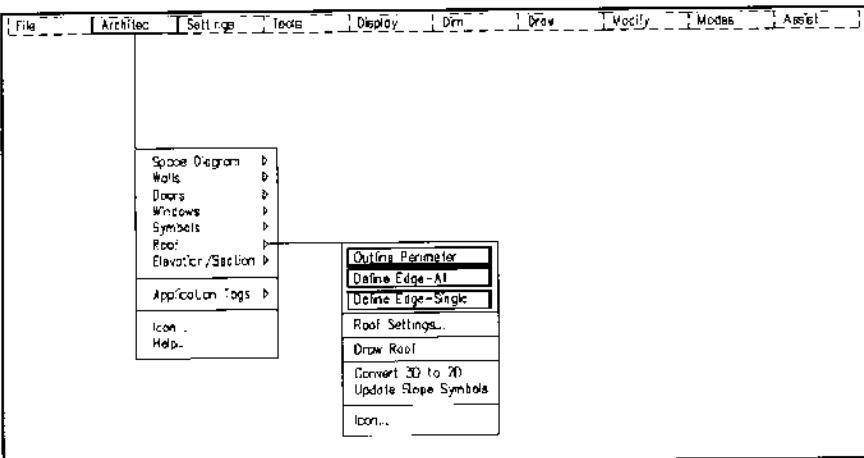
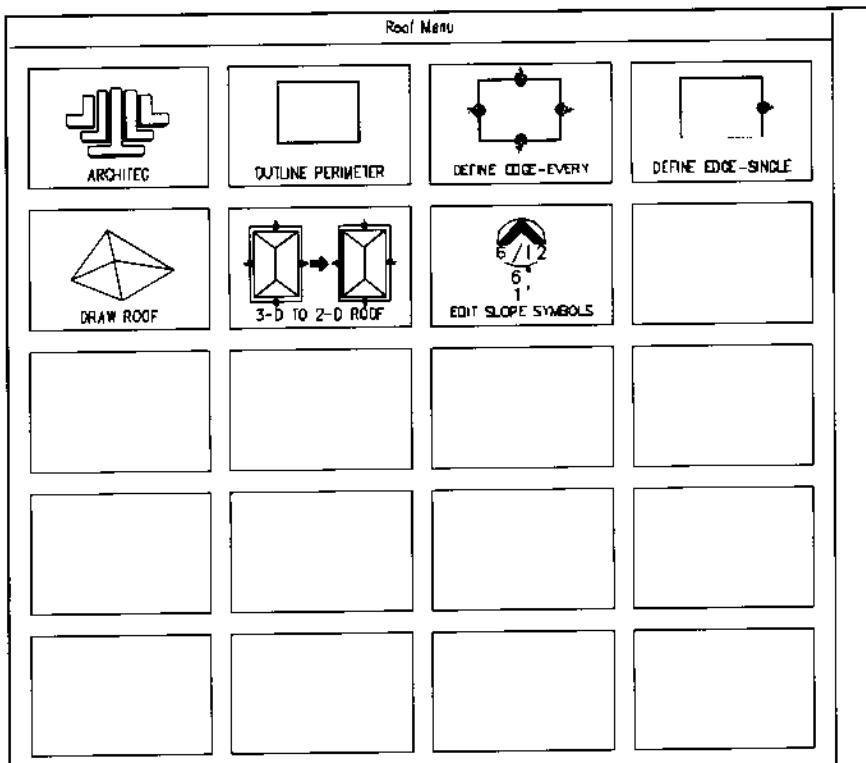

Figure 4.
Figure 5.
1. The first step in drawing the roof is to select Roof, then Outline Perimeter from the Architec pull-down shown in Figure 4, or the icon Roof Menu shown in Figure 5.